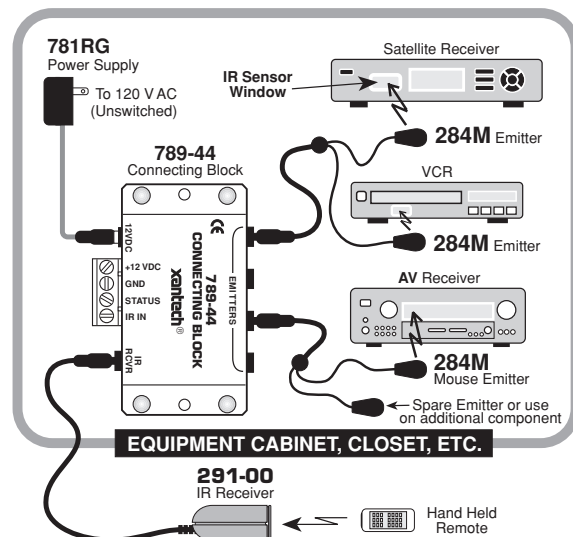

Fig. 5
- **Fig. 5** illustrates a typical basic system using the **284M** emitters.